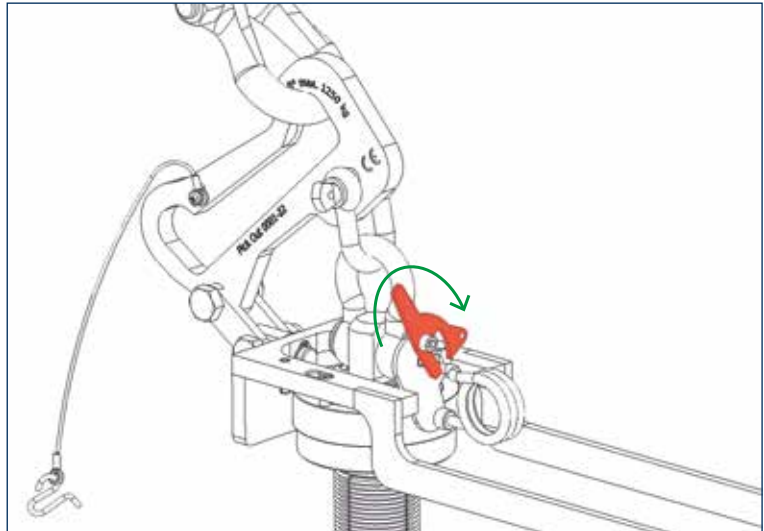
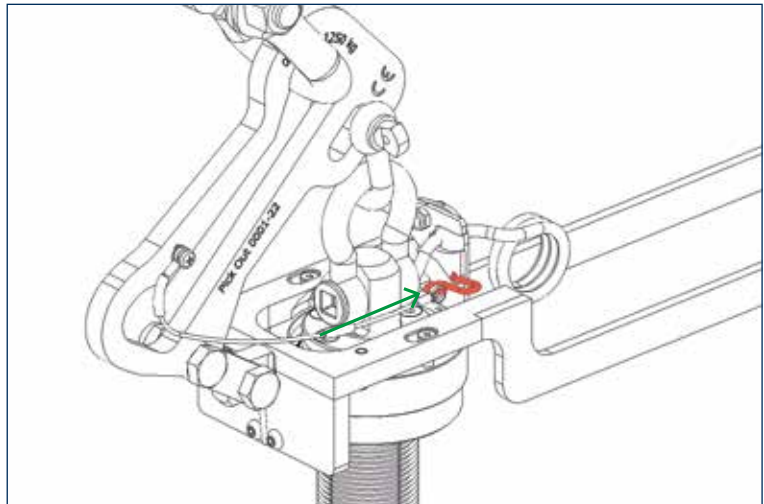

Fig. 3
Fig. 4
- e) Before each lifting operation, the spring lock must be activated. Operate the lever as shown in Fig. 3 in the prescribed direction and insert the locking pin. Make sure that the large shackle is in the area of the lifting position.
Before each lifting operation, the spring lock must be activated. Operate the lever as shown in Fig. 3 in the prescribed direction and insert the locking pin as shown in Fig. 4. Make sure that the large shackle is in the area of the lifting position.